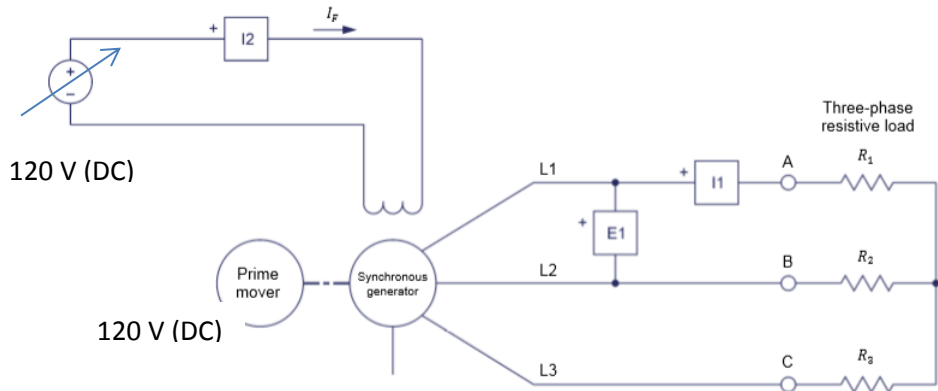

Fig. 6: Resistive Load Test.
- Connect a resistive load bank at the generator terminals as shown in Fig. 6 below. Initially start with all resistances switched off (i.e., open circuit). Connect the meters as shown. Start the prime mover and run the shaft at 1800 rpm. Then turn on the DC power supply and adjust the exciter current till the line-to-line voltage of the generator reaches 208 V (which corresponds to a phase voltage of 120V). Record the metered values in the first row of the table below.